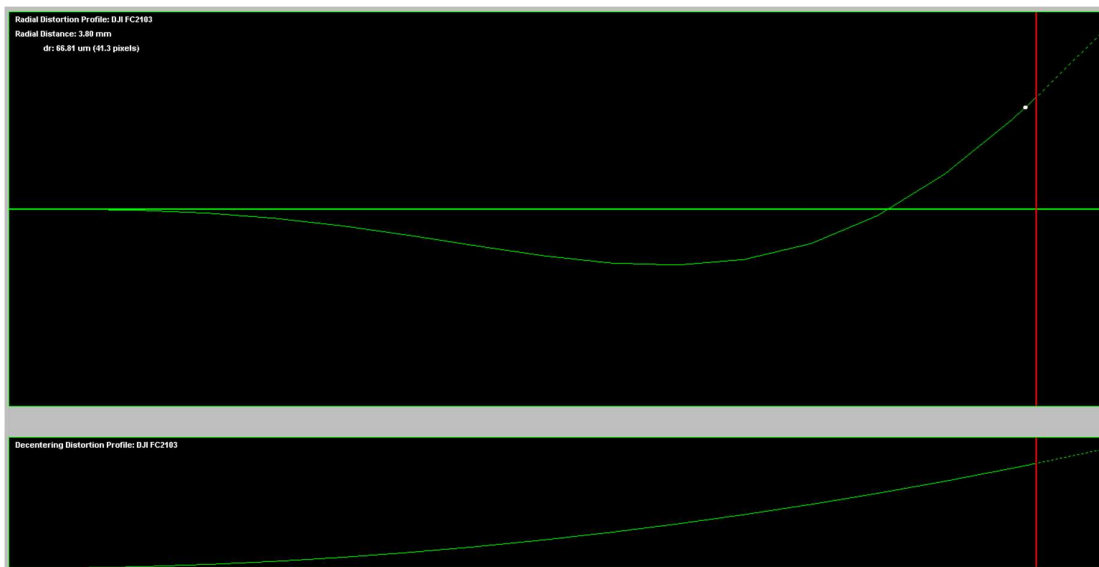

Figure 7
5) Output of Calibration Report and a note on Lens Distortion: To output a calibration report in pdf format, double-click on the camera icon and select **Export PDF Report**. The report lists the parameters and their estimated accuracy, and it also shows plots of radial and decentring distortion, the former of which is the most significant. These same plots can be shown on the screen again by double-clicking on the camera icon and selecting **Show Distortion Curves**. Note the red vertical line in the distortion plot of Figure 7. This indicates the maximum radial distance to a target point within the set of images, and the red line should be as far to the right as possible, since the dotted line indicates an extrapolated section of the curve, which is therefore of lower reliability.